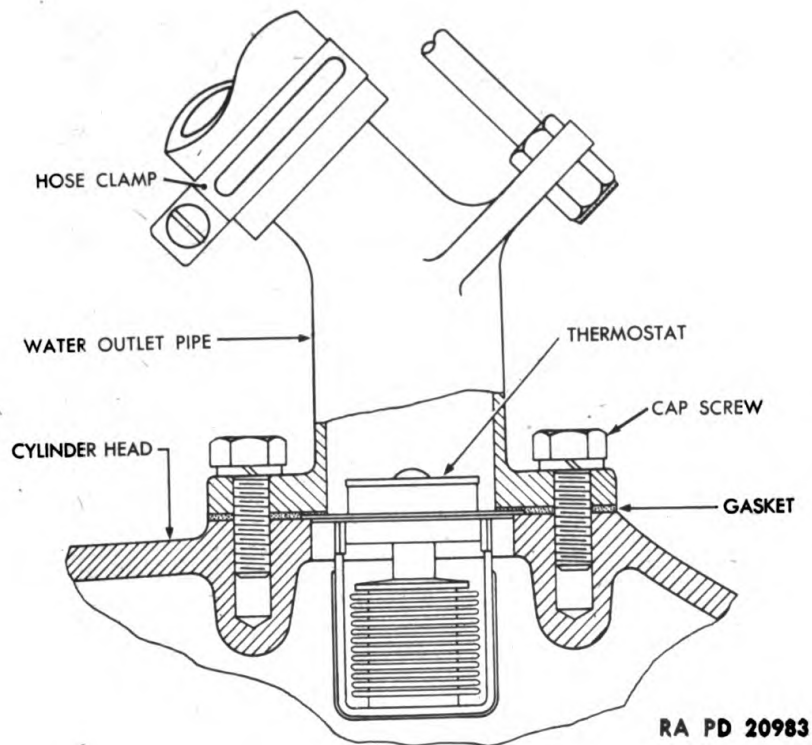

Figure 13 – Thermostat – Sectionalized View
b. **Functioning.** The water pump circulates cooled water from the bottom of the radiator through the channels in the engine water jacket and cylinder head. The heated water is forced out of the engine through the water outlet pipe, mounted on the engine cylinder head, and into the upper radiator tank. The water continues to flow down the radiator tubes where it is cooled and redrawn into the water pump to complete the water circulation cycle. The action of the fan causes air to circulate about the engine and forces air through the radiator, cooling the engine and the water circulating through the radiator. A thermostat, extending into the engine cylinder head, is mounted on top of the engine beneath the water outlet pipe (fig. 13). Its function is to prevent water circulation through the radiator until the engine has reached a normal operating temperature (160 to 180 deg F). A bypass pipe from the water pump to the engine block permits water circulation through the pump while the thermostat shuts off the water circulation through the radiator.
41. THERMOSTAT (fig. 13).
(1) Place thermostat in cylinder head so that bellows enter head (fig. 13).
(2) Using new gasket between water outlet pipe and cylinder head, connect outlet pipe to head.
(3) Attach upper radiator hose to water outlet pipe and replace radiator tie rod.
(4) Refill radiator.